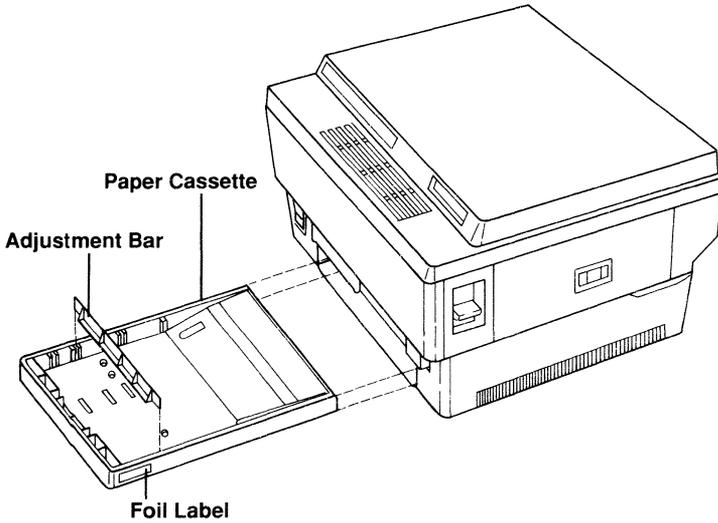

Figure 11: Inserting the Paper Cassette into the Printer
3. Insert the paper cassette into the slot under the front handle until it stops. (See Figure 11.)